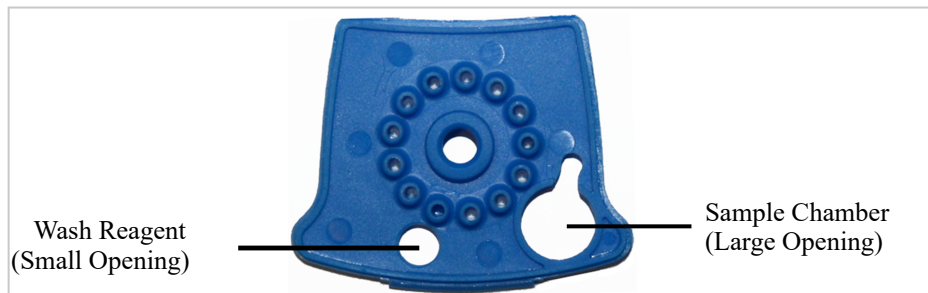

Figure 1 Xpert BCR-ABL Ultra p190 Cartridge (Top View)
3. Lift the cartridge lid and transfer the entire contents of the Wash Reagent (1) ampoule to the Wash Reagent Chamber (small opening). See Figure 1.
4. Pipette the entire contents of the prepared sample into the Sample Chamber (large opening). See Figure 1.